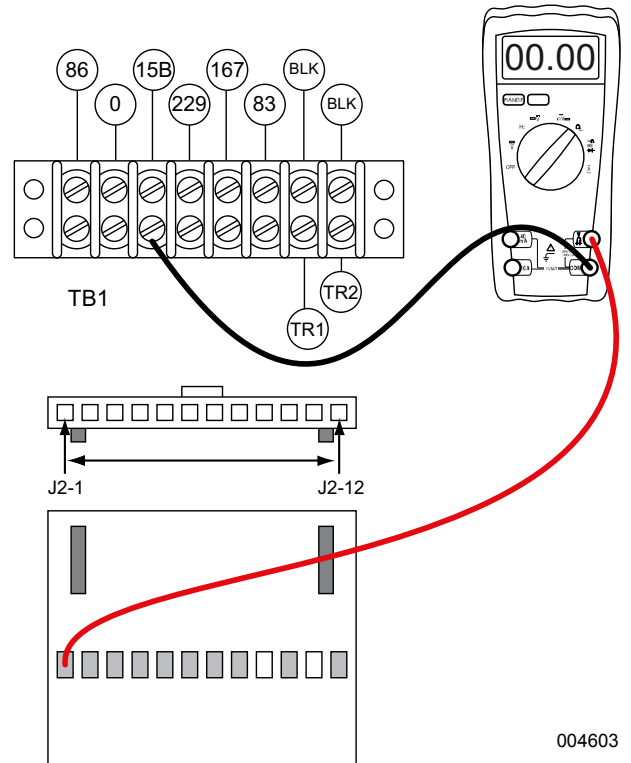

Figure 4-13. Testing J2-1
11. See Figure 4-13. Disconnect the J2 connector from the printed circuit board.